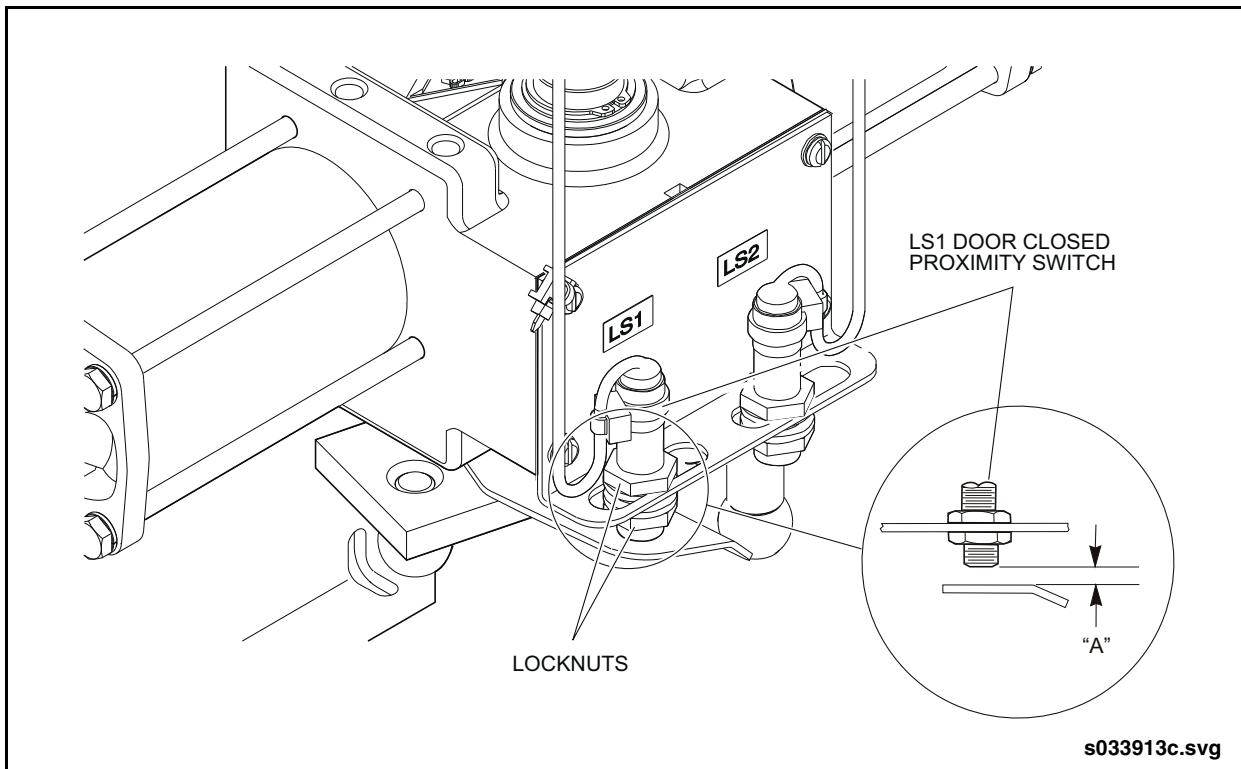

Fig. 16-6: Proximity Switch Adjustment
2. Use a feeler gauge to measure gap between teeter lever and bottom of the LS1 proximity switch. Loosen switch lock nuts as required and adjust switch to obtain a gap of  $0.080 \pm 0.010$  inches ( $2.00 \pm 0.13$  mm). See "Fig. 16-6: Proximity Switch Adjustment" on page 16.